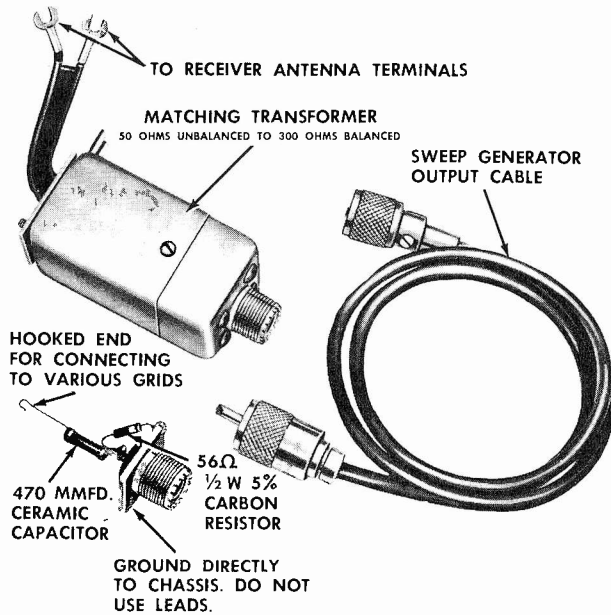
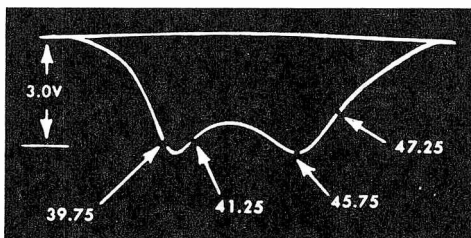
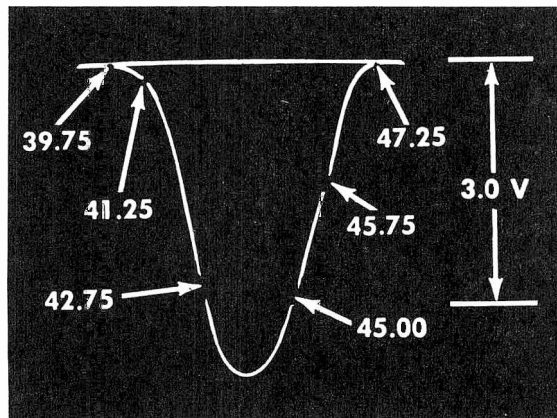

Fig. 4 IF-RF Alignment Fixtures
Fig. 5 4th IF Response
Fig. 12 Overall IF Response
3. Feed the sweep generator through the special terminating network shown in Fig. 4 to point "G" (Pin 2 of the 3rd IF). Adjust generator to obtain a response similar to Fig. 5 with a detector output of 3 volts peak to peak. Do not exceed this level during any of the adjustments.
4. Set the marker generator to 45.75 Mc and alternately adjust the top and bottom cores of the 4th IF for maximum gain and symmetry with the 45.75 Mc marker positioned as shown in Fig. 5. The two peaks must be equal in height and the high frequency
3. Feed the sweep generator through the special terminating network as shown in Fig. 4 to point "G" (Pin 1 of the 3rd IF). Adjust generator to obtain a response similar to Fig. 12. Do not exceed the 3 volt peak to peak detector output during any of the following adjustments.
6. Disconnect the jumper between "E" and the 68 and 1500 ohm cathode resistors. Connect this jumper between "E" and chassis. Adjust sweep generator for 3 volts peak to peak output. Alternately adjust the 2nd, 3rd, 1st IF and the converter plate coil until an overall response similar to Fig. 12 is